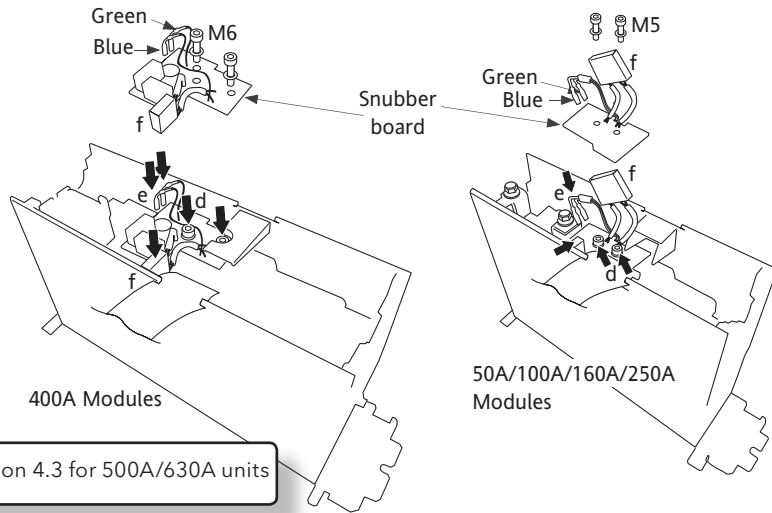

Figure 3.3a Snubber board replacement
2. Disconnect the large connector ('f' in figure 3.3a) connecting the snubber board to the main power board.